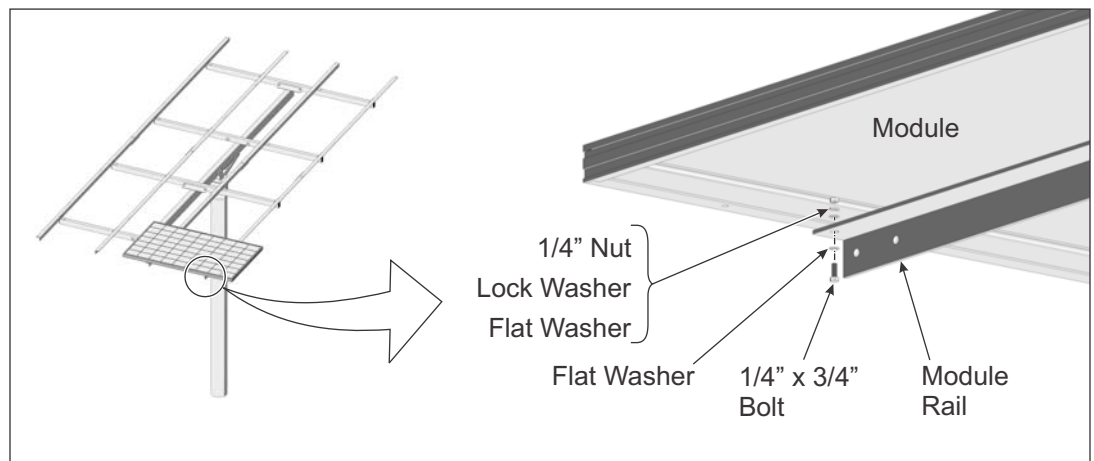

Figure 5-1: Installing PV Modules to Module Rails
- Place an interior PV Module on the Module Rails. Align the mounting holes and secure with 1/4" x 3/4" bolts and hardware; each Module has four attachment points. Finger-tighten for now. (See Figure 5-1)